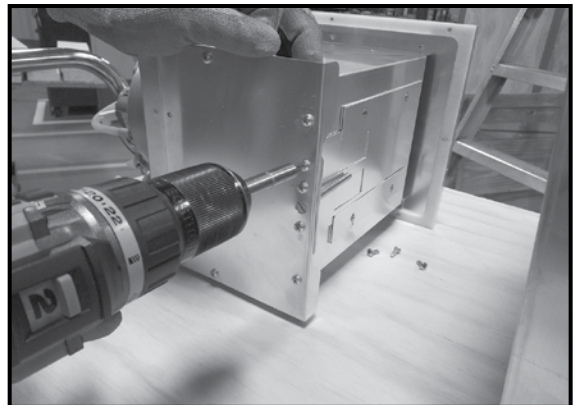

Figure 3.14
7. The air baffle is shipped in the closed position; for certain vent runs the air baffle will need to be adjusted. To adjust the baffle, remove the locking screw. See Figure 3.14. (Refer to section 5B to determine baffle setting.)